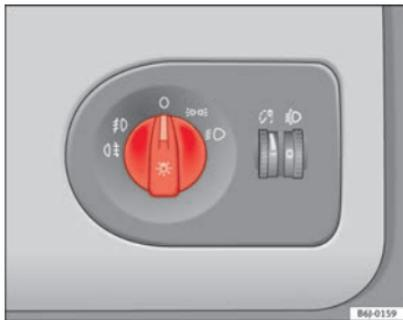

Fig. 54 Detailed view of the dash panel: lights, fog lights and rear fog light switch
- Turn the light switch  $\Rightarrow$  fig. 54 to position  $\Rightarrow$ .